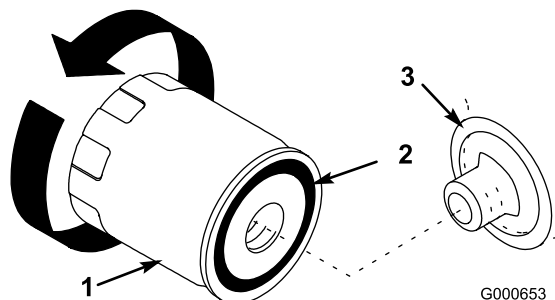

Figure 21
6. Remove the old filter and wipe the filter adapter gasket surface (Figure 21).